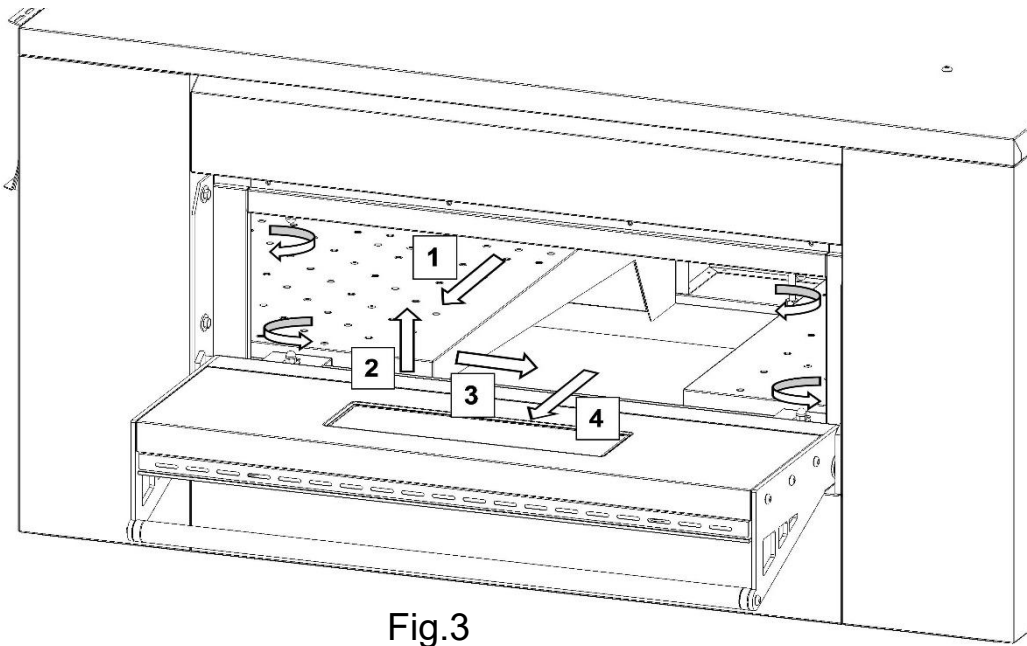

Fig.3
After setting the desired cooking time and temperature, proceed to the activation of the belt movement using the button (Fig.3).
8. Open the side hatch and unbolt the nuts using a number 10 spanner. Making sure to wear a pair of heavy duty gloves to avoid getting scratched from sharp metal corners and take out the diffusers (see Fig.3 paragraph 8.2.1).
7. Open the side hatch and unbolt the nuts using a number 10 spanner (Fig.3). Only for 06/40V model, remove the lateral door and unscrew the fixing bolts with a number 10 spanner.
Making sure to wear a pair of heavy duty gloves to avoid getting scratched from sharp metal corners and extract the diffusers as shown in Fig.3 Following the sequence 1-2-3-4.